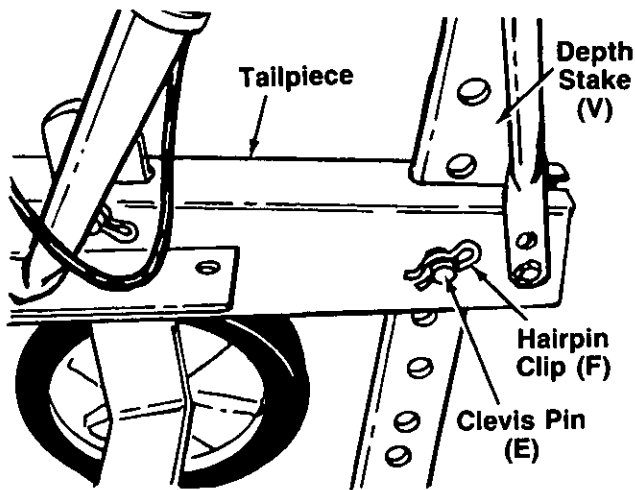

FIGURE 19.
23. Place the depth stake (V) in position on the tailpiece. Secure with clevis pin (E) and hairpin clip (F). See figure 19.